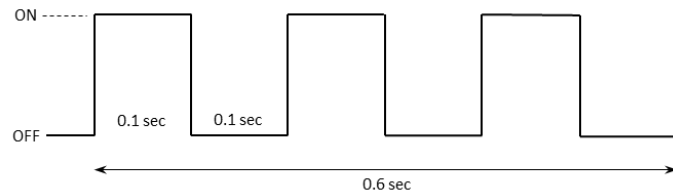

Figure 1-9: The GREEN LED Pattern Before Entering DEEP SLEEP
2. Immediately, **GREEN** is toggled ON and OFF every 0.1 sec for 0.6 sec as shown in Figure 1-9.